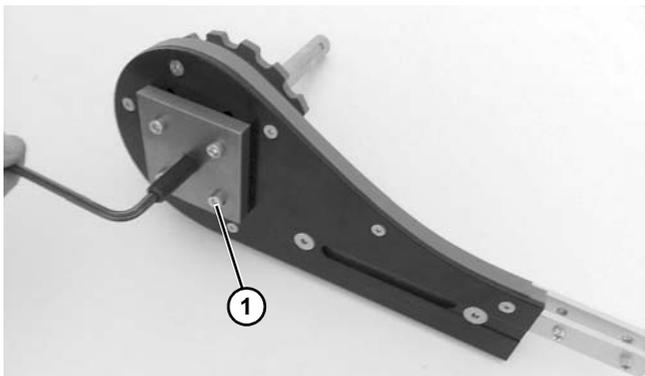

**Figure 126**
5. Remove two screws (**Figure 126, item 1**) on side of drive spindle.